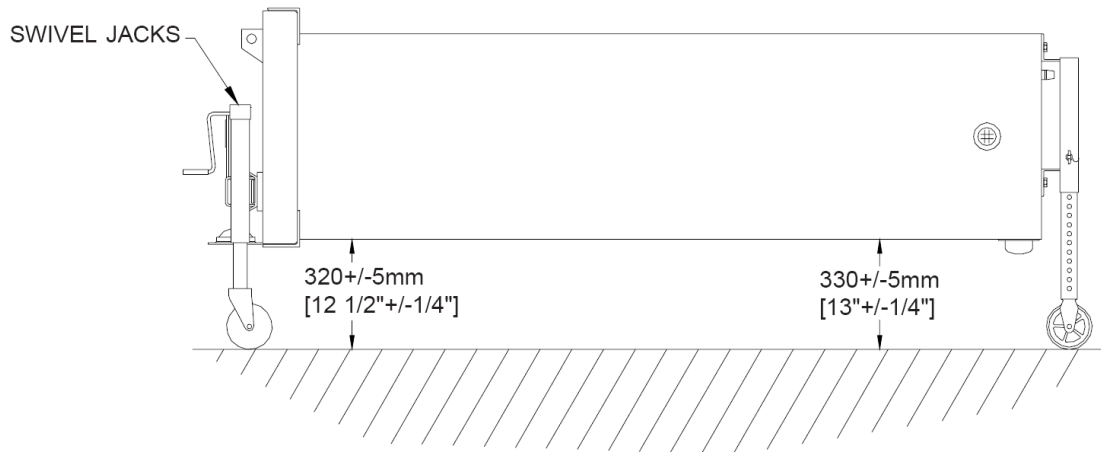

Figure 1
4. The TMA Cartridge is shipped attached to the Backup. The first step in the assembly process is to remove the assembly from the crate and make it mobile. This is accomplished by carefully removing the crating material to confirm the two Backup Jacks are attached. If the Jacks are not attached, attach them to the Backup as required (see Drawing 610984 on page 23). The TMA can be made mobile (see Figure 1).